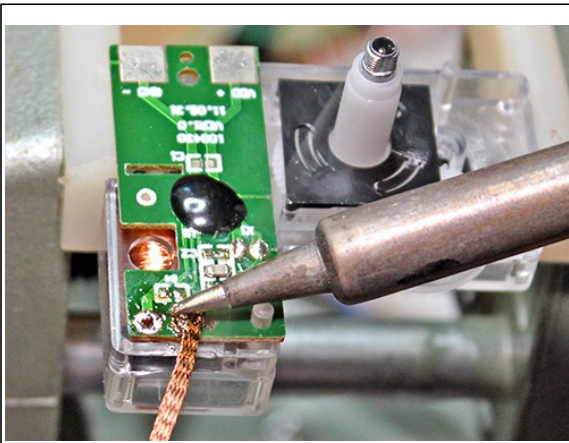

Fig. 33: Removing solder with desoldering braid.
- ☐ If you're using desoldering braid, place it on the solder around one terminal, then heat the braid with your soldering iron. The hot braid will melt the solder and wick it away from the terminal; see Fig. 33. Work quickly to avoid melting the plastic that holds the terminals beneath the PCB.